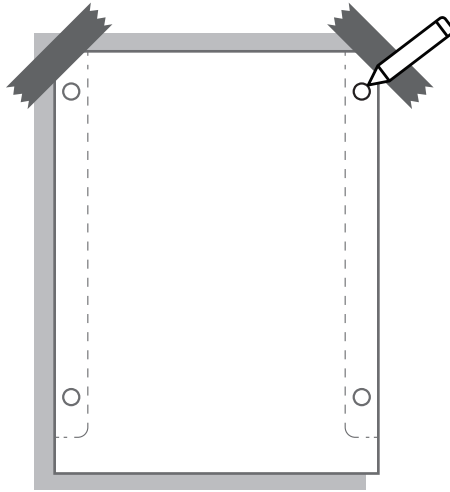

Fig. 5.4.4
2. Mark the mounting hole on the wall with the installation template. (See Fig. 5.4.4)